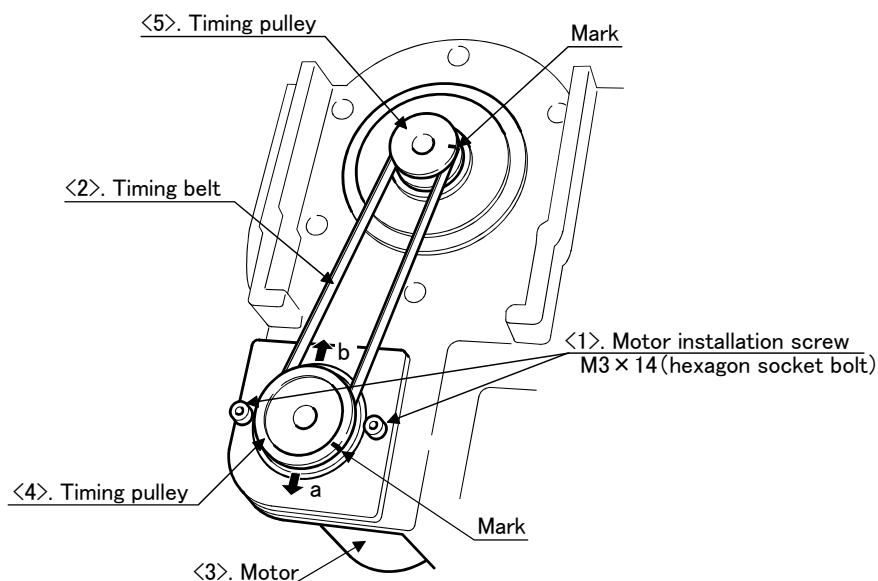

Fig.5-8 : Inspection, maintenance and replacement of J4-axis timing belt
- 1) Fig. 5-8 shows the methods for inspecting, adjusting and replacing the timing belt.
- 5) Make marks on the timing belt <2> and timing pulleys <4> and <5> with a felt-tip pen as shown in Fig. 5-8 so that the engagement of the timing belt <2> and timing pulleys <4> and <5> does not deviate.